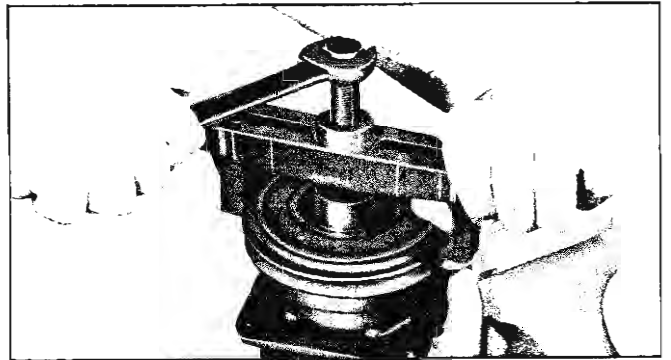

Fig. 29—Removing Pulley
- Place puller pilot J-9395 over the compressor shaft and pull off the pulley assembly using J-8433 pulley puller (fig. 29).